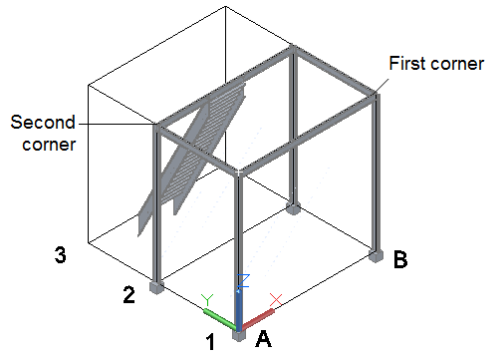

Figure 3-45 Selecting corner points to create a grating
3. Select the corner points, as shown in Figure 3-45; a rectangular grating is created on the platform 3-46.